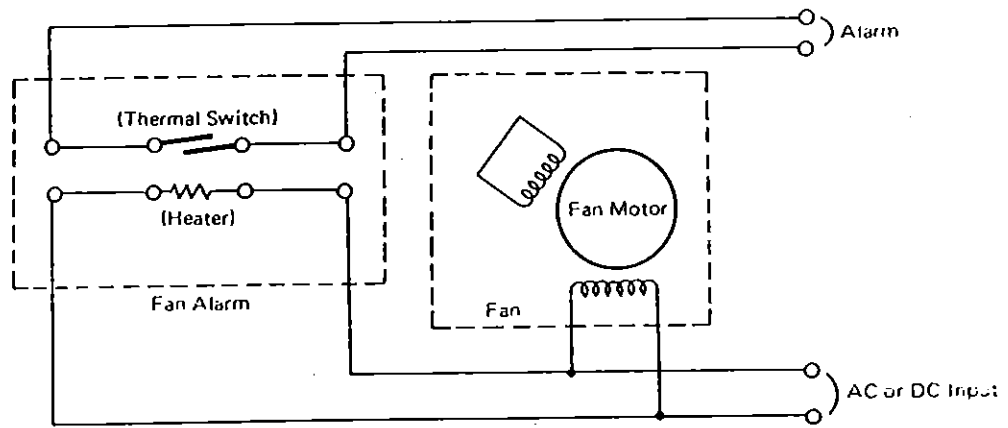

Figure 1-3-4 Optional Fan Unit Alarm
- \* However, I (A) x E (V) < 10W DC
- Circuit: See Figure 1-3-4